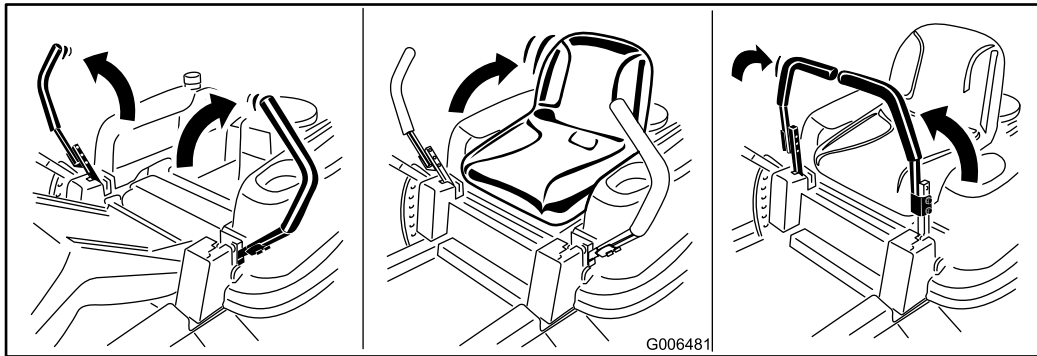

Figure 2
3. Open the motion control levers and raise the seat (Figure 2). Move the control levers back to the center position (neutral).